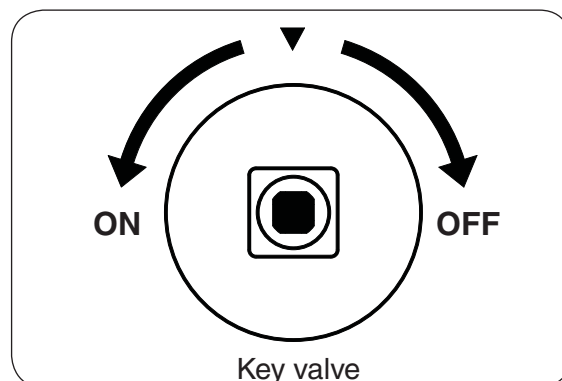

Fig. 27-2
4. **Once the match is burning and in position**, slowly turn the key valve counter-clockwise toward the **ON** position until it no longer rotates (see Fig. 27-2). Your burner should light.
To extinguish your gas burner, insert the key into the key valve and turn the valve clockwise toward the **OFF** position until it no longer rotates (see Fig. 27-2). Be sure the control knob is turned fully off to avoid any gas leakage.